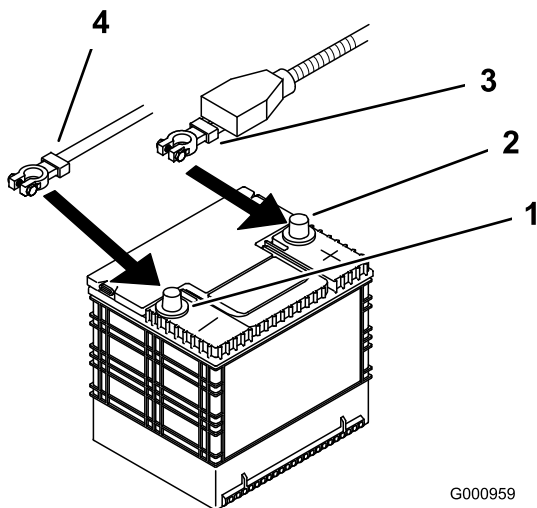

Figure 47
4. First disconnect the negative battery cable from the negative (-) battery terminal (Figure 47).
5. Slide the red terminal boot off the positive (red) battery terminal. Then remove the positive (red) battery cable (Figure 47).
1. Position battery in the tray with the terminal posts opposite from the hydraulic tank (Figure 47).
4. Secure the cables with 2 bolts (1/4 x 3/4 inch), 2 washers (1/4 inch), and 2 locknuts (1/4 inch) (Figure 47).